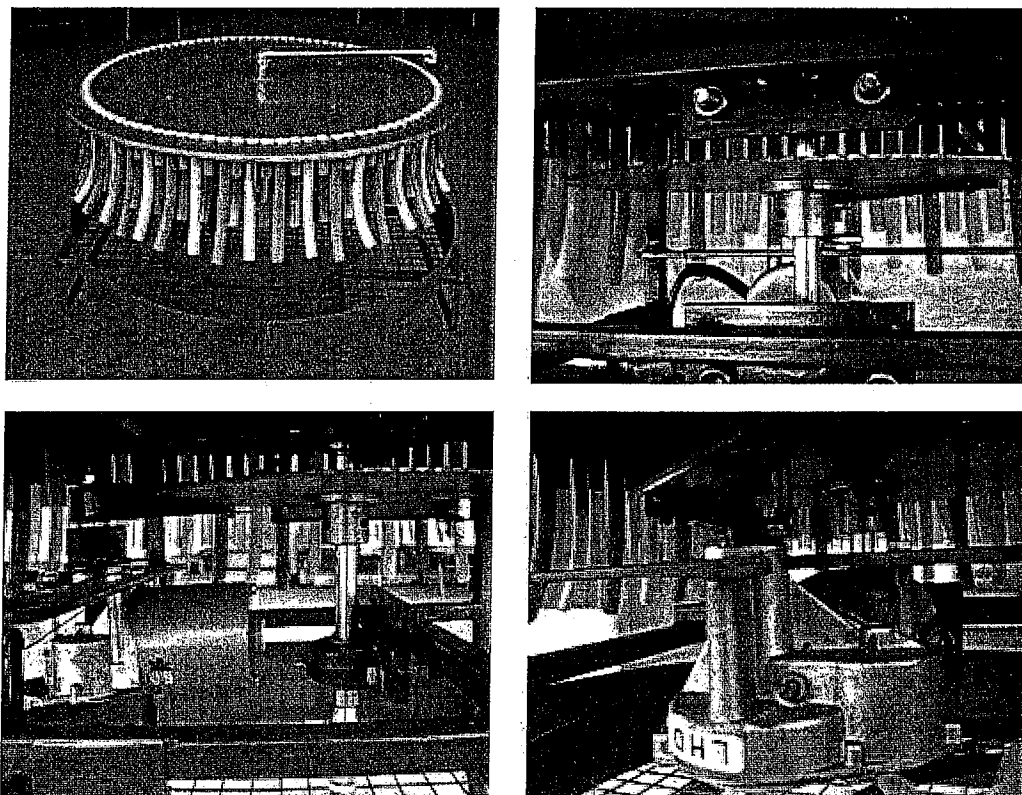

Figure 11. Sediment sample collection unit showing the key parts which needs annual greasing (as shown by the arrow mark).
Due to rusting of moving parts like gear set and bearings	DC shunt (wiper) motor is struck due to rusting, Greece it and clean the rust and other materials from all moving parts like gear set and bearings (Fig. 11)
5. Grease the gear set/saw plate, shaft and bearing of sediment sampler periodically for free movement of nozzle without any obstruction (Fig. 11).